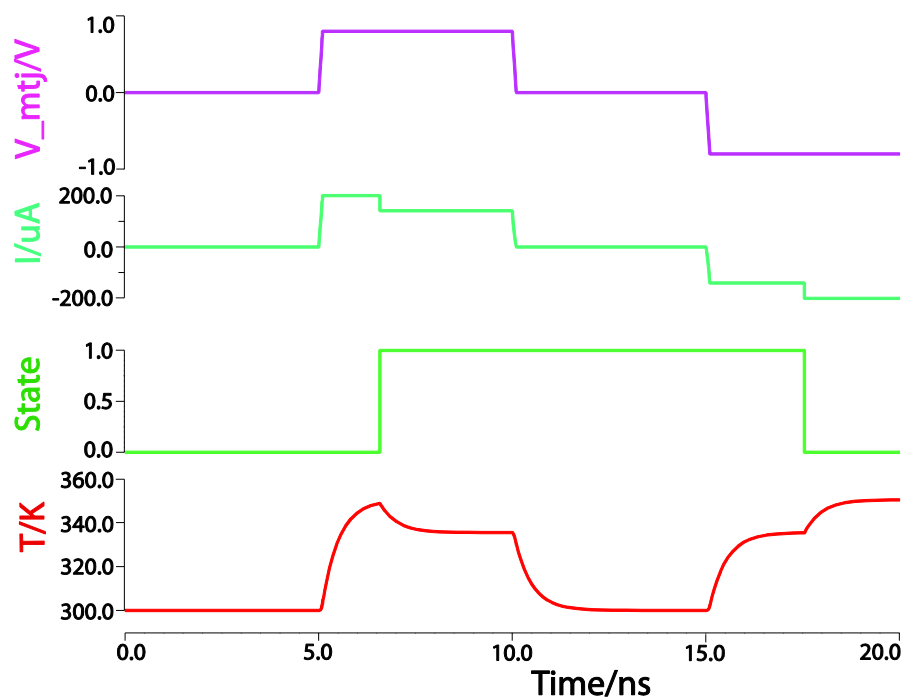

Fig.12 Temperature evaluation when the state of MTJ from P to AP and from AP to P
Fig.12 200 complete writing operation simulations with both STT stochastic switching and resistance variations (antiparallel (AP) to parallel (P) and back to antiparallel (AP))
Case 4: Temperature changes because of Joule heating (Temp_var=1)(see Fig.12)